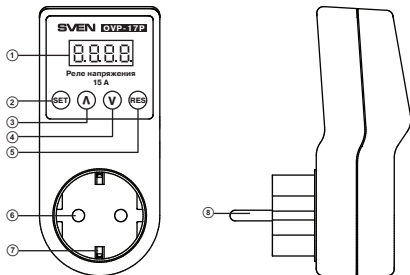

Fig. 1
**Design description** (Fig. 1)
- ① Four-digit LED indicator to display voltage value of the power supply network, values of parameters being set and the voltage relay status indication
- ② SET: button to enter the programming mode and select programmable parameters
- ③  $\Delta$ : button to increase the value of a parameter being set
- ④ V: button to decrease the value of a parameter being set
- ⑤ RES: reset button
- ⑥ Protective shutters
- ⑦ Grounding contacts
- ⑧ Wall plug to connect the voltage relay to  $\sim 220 - 230 \text{ V} / 50 \text{ Hz}$  power supply network socket